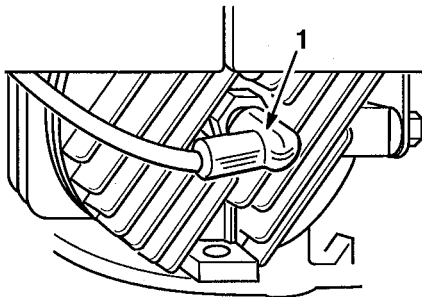

Figure 26
4. Install spark plug by hand, then torque to 180 in.-lbs. (15 ft.-lbs.) (20 N·m) (Fig. 26).
5. Reconnect spark plug wire when maintenance is completed (Fig. 26).
1. Disconnect spark plug wire (Fig. 26). Remove key from switch.
- Connect spark plug wire when maintenance is completed (Fig. 26).